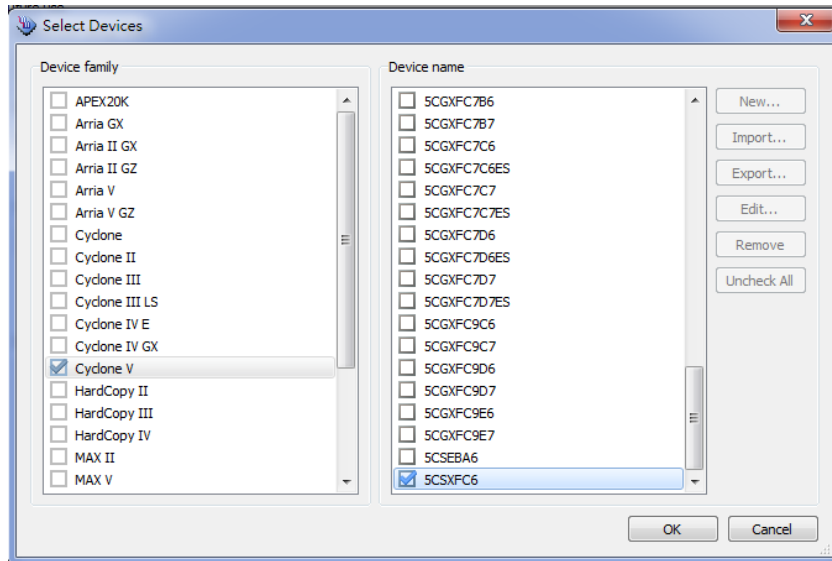

Figure 7-4. Select Devices Page
12. Select the targeted FPGA that you are using to program the serial configuration device. See Figure 7-4.